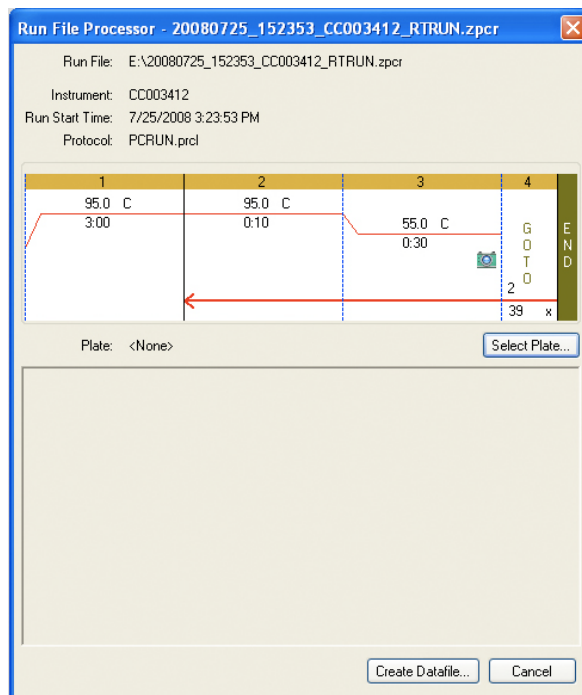

Figure 46. Assigning a plate file.
2. In the **Run File Processor** window, click the **Select Plate** button to import the name of the plate file the software will use to create the data file (Figure 46).